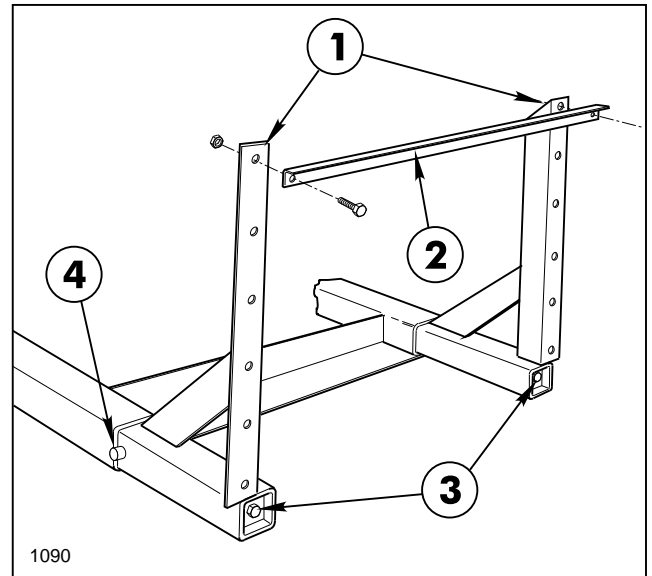

FIG. 10
1. Apply a heavy coating of grease to the tubes of the two Boom Mount Assemblies and insert them into the Vehicle Frame as shown in FIG. 10.
**NOTE:** Note the position of the angle member of the Boom Mount Assemblies, in relation to the tube member. They must be positioned as shown in FIG. 10 for the mounting of the Cross Support Angle.
5. Using a torque wrench, tighten the 1/2" x 18" wedge screws that join the Wedges to the Boom Mounts. Tighten to 50 ft. lbs. See FIG. 10